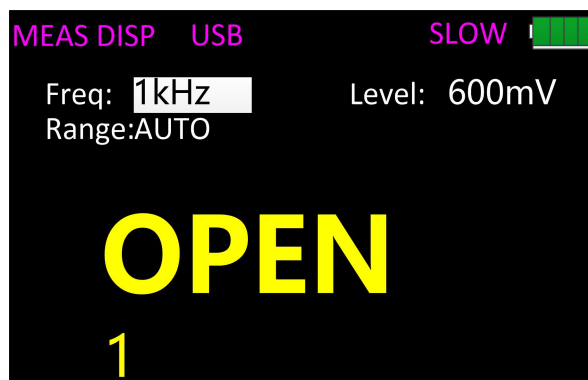

Figure 8
2. Short press **▲NULL** for open (OPEN) or short (SHORT) circuit correction and the interface is shown as in Figure 8. If the correction is successful, the secondary display shows "SUCESS"; or it shows "FAILED".